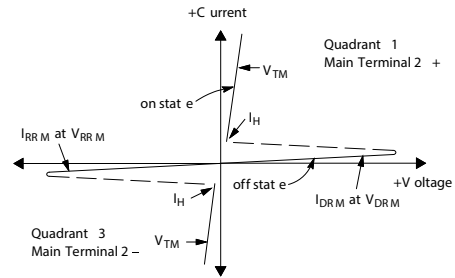

Figure 1. Peak Capacitor Discharge Current
- Ratings apply for $tw = 1$ ms. See Figure 1 for I_{TM} capability for various duration of an exponentially decaying current waveform, tw is defined as 5 time constants of an exponentially decaying current pulse.
- Ratings apply for $t_w = 1 \text{ ms}$. See Figure 1 for I_{TM} capability for various durations of an exponentially decaying current waveform. t_w is defined as 5 time constants of an exponentially decaying current pulse.